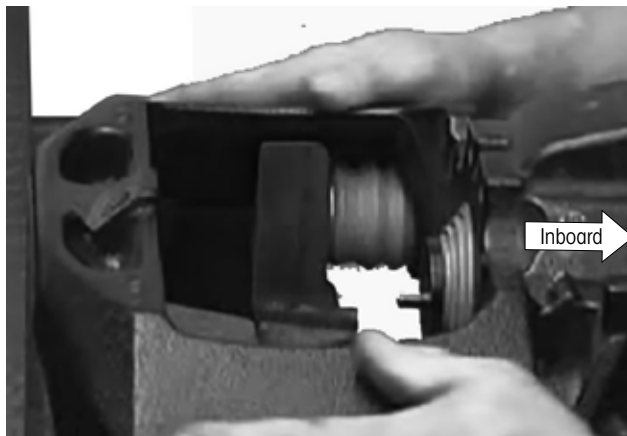

Figure 75: Pushing caliper to inboard side
1. **Manually push** the caliper completely inboard (Figure 75).